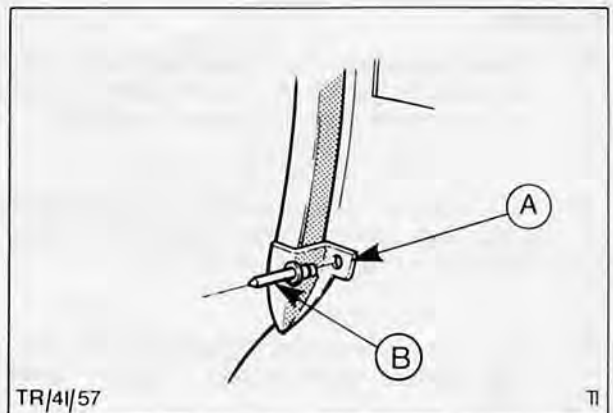

Fig. 40. Flanged retainer and 'pop' rivet (lower end front door aperture weatherstrip)
3. Fit flanged retainer over to lower end of weatherstrip and secure to body with 'pop' rivet, Fig. 40.